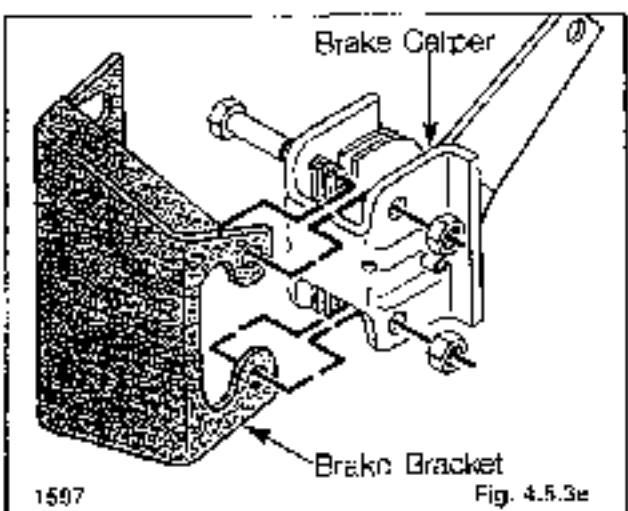

Fig. 4.5.3e
9. Remove the brake caliper from the brake bracket (fig. 4.5.3e).